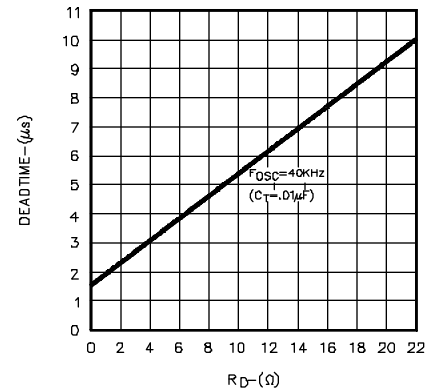

FIGURE 6.
2. If more dead time is required, select a larger value of  $R_D$  using Figure 6 as a guide. At 40kHz dead time increases by 400nSec/ohm.